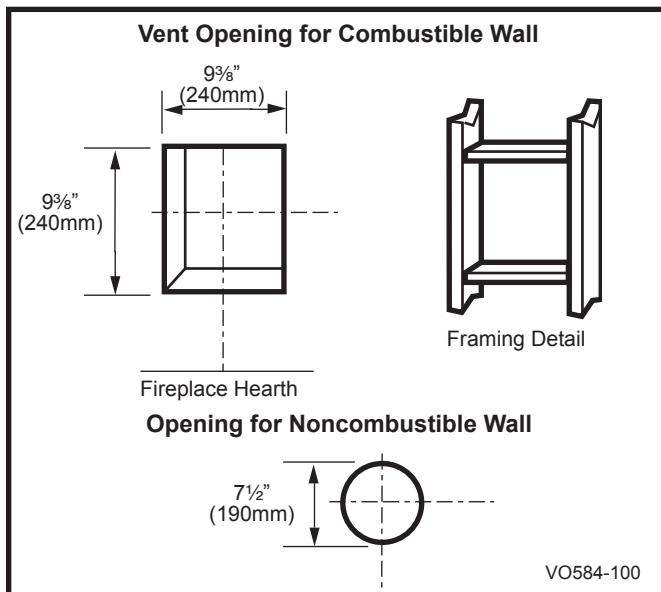

Fig. 25 Locate vent opening on wall.
Locate vent opening on the wall. It may be necessary to first position the fireplace and measure to obtain hole location. Depending on whether the wall is combustible or noncombustible, cut opening to size. (Fig. 25)
Combustible Walls (Fig. 25): Cut a 9 $\frac{3}{8}$ "H x 9 $\frac{3}{8}$ " W (240 x 240 mm) hole through the exterior wall and frame.
Noncombustible Walls (Fig. 25): Hole opening must be 7.5" (190 mm) in diameter.
1. Establish vent hole through the wall. (Fig. 25)